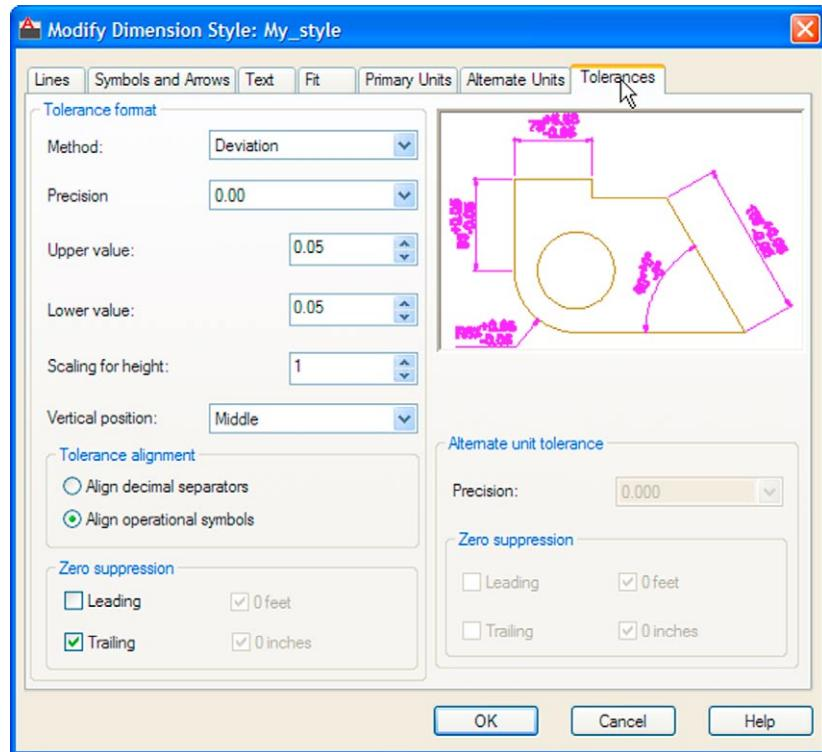
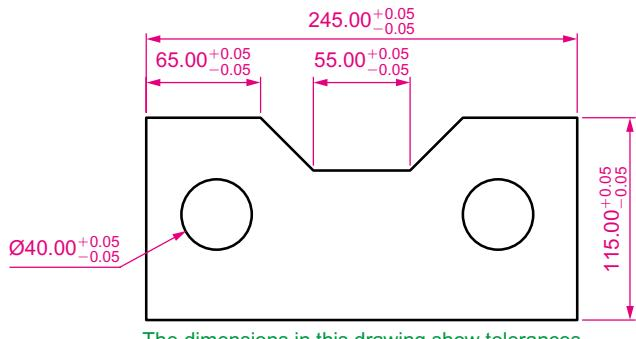

Fig. 6.17 The **Tolerances** sub-dialog of the **Modify Dimension Style** dialog
Fig. 6.19 Example – tolerances
2. Click the **Modify...** button of the dialog, followed by a *left-click* on the **Primary Units** tab and in the resulting sub-dialog make settings as shown in Fig. 6.17. Note the changes in the preview box of the dialog.
Example – tolerances (Fig. 6.19)
3. Dimension the drawing using either tools from the **Dimension** panel or by *entering* abbreviations at the command line. Because tolerances have been set in the **Dimension Style Manager** dialog (Fig. 6.17), the tolerated dimensions will automatically be added to the drawing (Fig. 6.19).
Example – Single Line Text (Fig. 6.19)
1. Open the drawing from the example on tolerances – Fig. 6.19.
The result is given in Fig. 6.19.